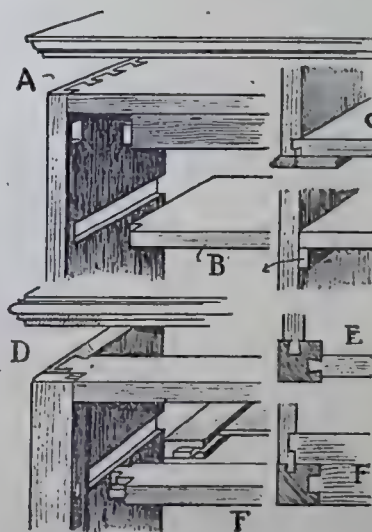

FIG. 2.—DETAILS OF CHINA CABINET.
fit a back, 6 ins. to 7 ins. high, to be moulded as shown. You suggest carving the lower side panels of carcass but this is not usually done, and we think it would be much more satisfactory if these panels were moulded and left plain. The upper back might then be made the subject of your best in the way of carving, as its position at eye level will give it full prominence. You could finish with plain tapered feet, but the effect would be better if the finish was in the style of that shown. The upper part of cabinet has leaded glass in doors, which will suit the whole thing very well, and the same can be introduced into the sides here. A projecting mould is also suggested above these doors with the ends carved up as a further relief. The handles had best be of blacked iron of the drop pattern on a 4-inch drawer front. A few rough notes are added at Fig. 2 for putting together. The sides if
framed up can be dowelled or mortised together with dovetailed rails connecting them; or if the ends are made about 12 ins. deep only, without glass panels, they can be put together as at A, Fig. 2. The shelves (B) can be grooved into solid sides, or may rest on fillets. The bottom can be dovetailed in as top, or dovetail-grooved in as at C, cut back $\frac{1}{2}$ in. from front so that the joint does not show. If pilasters are preferred, as your pencil sketch shows, you can use these, glued in position to mask the joint. Or a $\frac{1}{2}$ in. bottom could be screwed on, rebated to fit up behind the doors and act as a stop for them. Doors would be mortised and tenoned together, preferably right through, and a panel back will look best. The leaded glass can be obtained through the local glazier. The lower carcass, with solid sides, can be put together with dovetailed top rails front and back as indicated at D, Fig. 2, and screwed, the top also being screwed from underside through thumb slots. If framed up